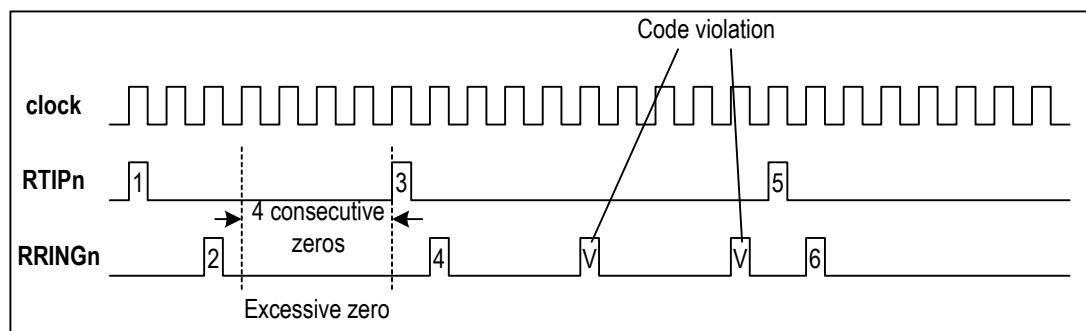

Figure 10. HDB3 Code Violation & Excessive Zero Error
- HDB3 Code Violation (CV) Error: When HDB3 line code rule is used, a CV error is detected if two consecutive BPV errors are detected, and the pulses that have the same polarity as the previous pulse are not the HDB3 zero substitution pulsed (refer to Figure 10).
| HDB3 | More than 3 consecutive 0s are detected (refer to Figure 10). | More than 3 consecutive 0s are detected (refer to Figure 10). |